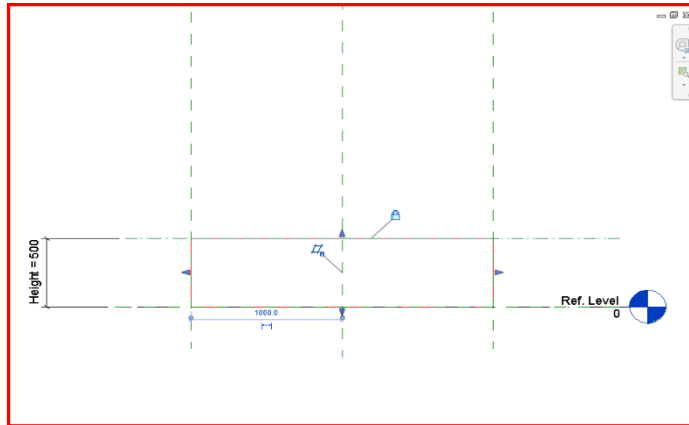

Figure 2.22
18. In the view tab, draw a rectangular outline from the upper-left corner to the lower-right corner created by the intersection of the reference planes as shown in Figure 2.22.